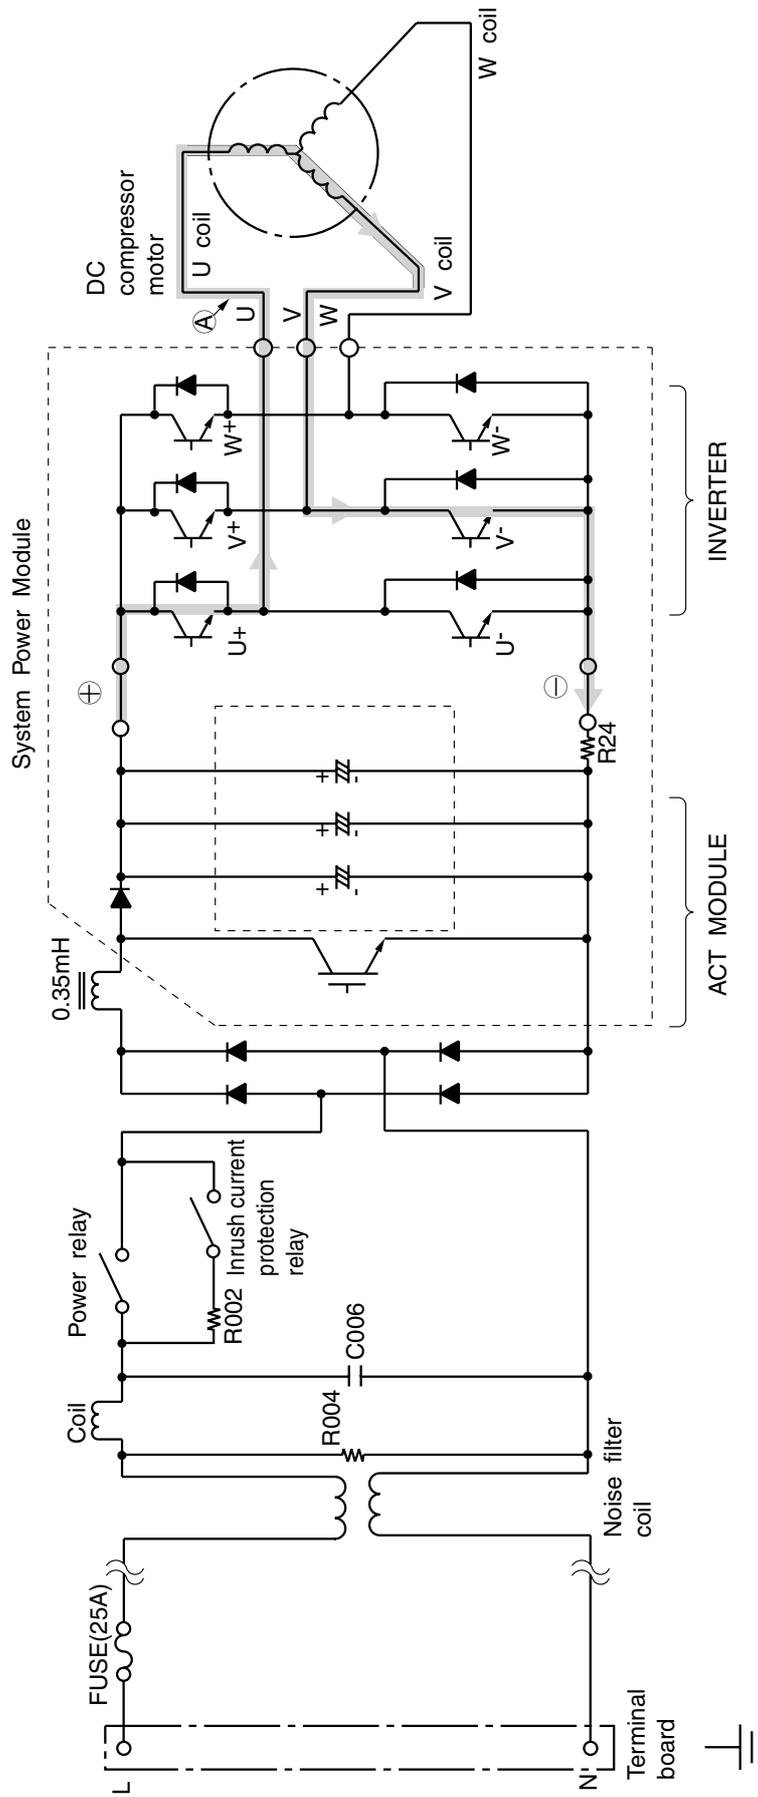

Fig. 3-1 System power module circuit (U⁺ is ON, V⁻ is ON)
- Fig. 3-1 shows the system power module and its peripheral circuits. (Current ACT module and power module are combined into one unit.) The three transistors on the positive \oplus side are called the upper arm, and the three transistors on the negative \ominus side, the lower arm.